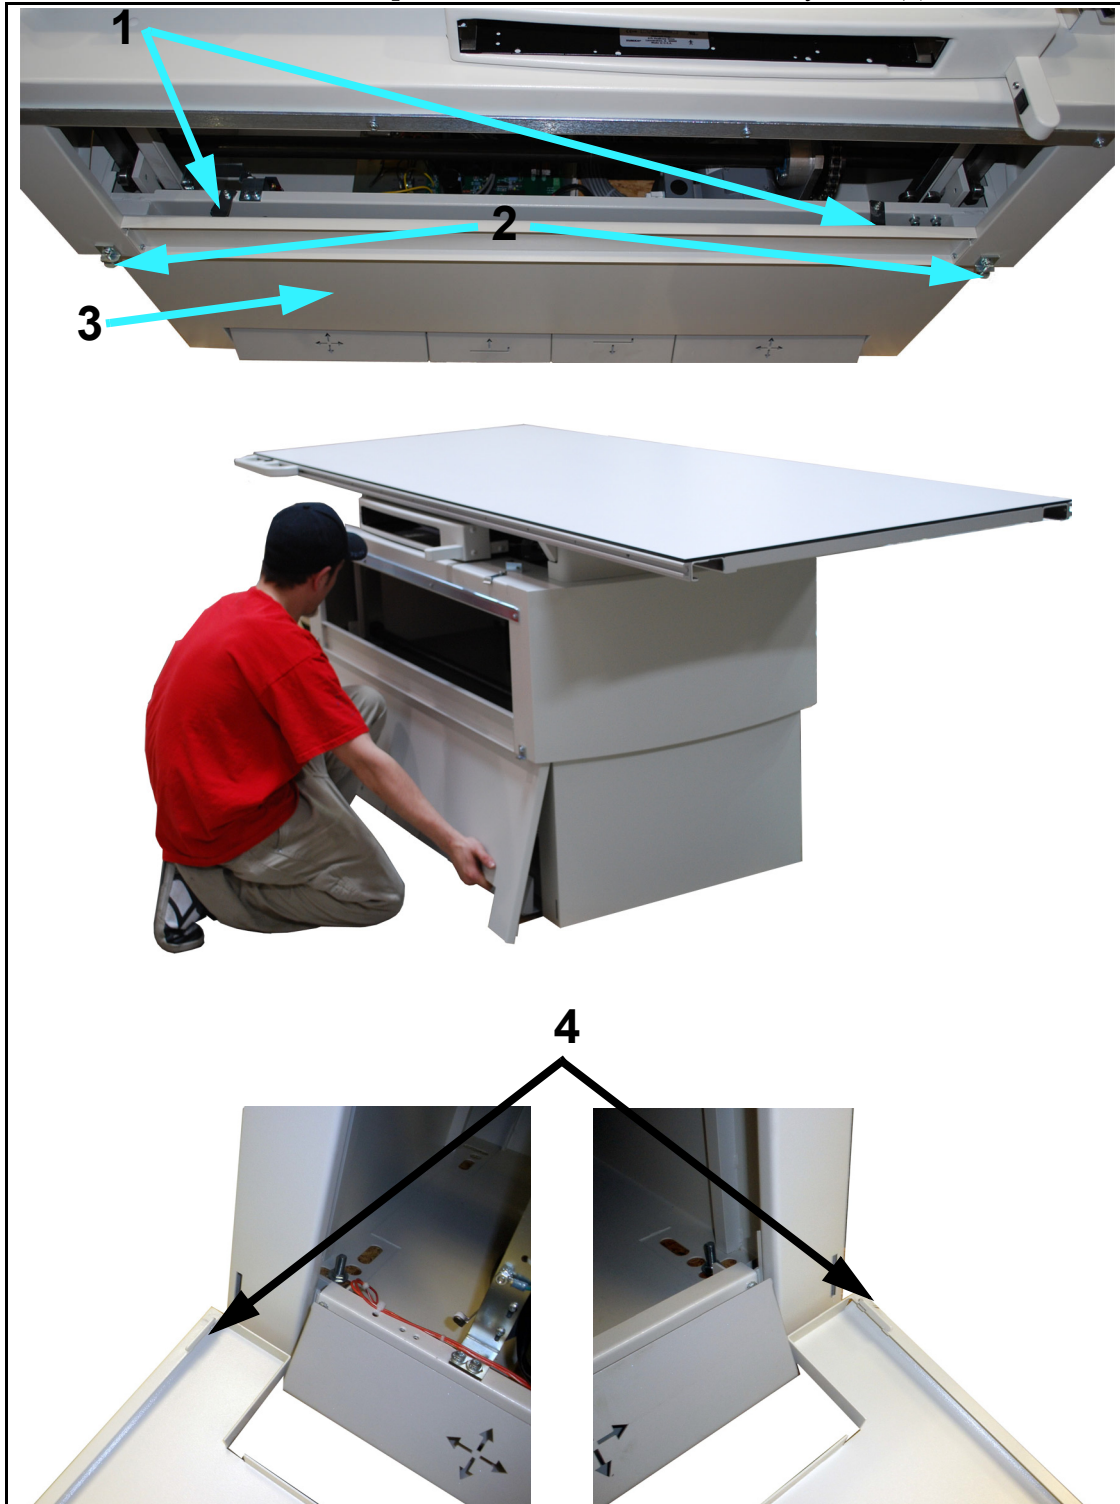

Figure 6-2. Lower Panel Clamps
- 4 Unscrew the two lower panel clamps screws (1 in Figure 6-2), then remove the lower panelhead screws (2).
- 5 Lift the lower panel (3) up slightly and then pull it out. The bottom of the lower panel is connected to the table by slots (4) shown below.